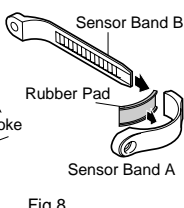
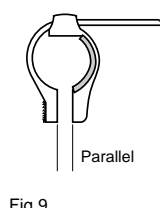

Fig. 8
Fig. 9
1. Insert the band B into the slit of band A, and put the rubber pad inside of the band A (Fig. 8). Adjust the length in order that the screw-fastening part of the bands are parallel when mounted to the fork (Fig. 9).